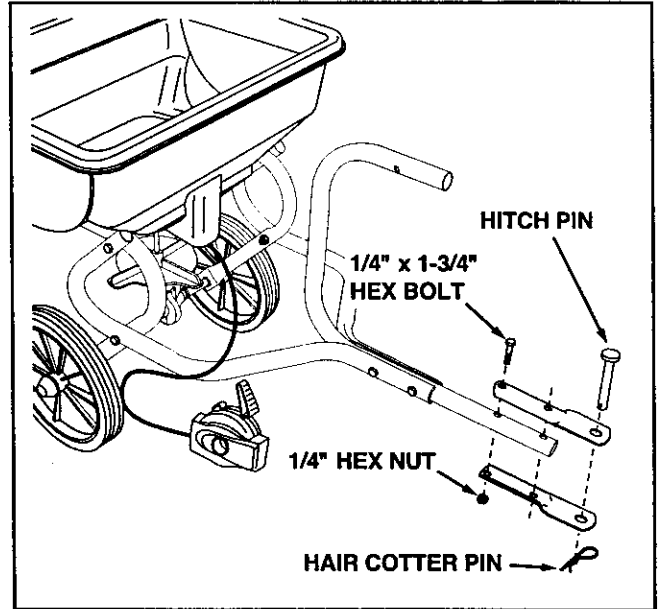

FIGURE 3
4. Assemble the Hitch Brackets to the Hitch Control Tube using two 1/4" x 1-3/4" hex bolts and 1/4" hex nuts. Tighten. See figure 3.
5. Assemble the hitch pin through the hitch brackets and secure with the 1/8" hair cotter pin. See figure 3.